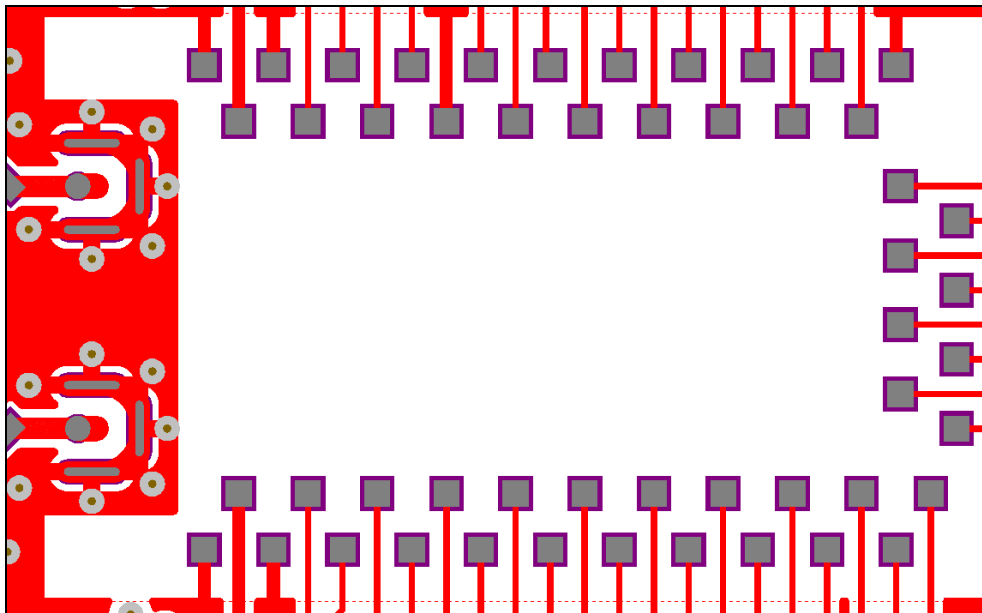

Figure 36: Exemplary base board footprint for 22M12 / 23M12 (top view)
**Figure 36** shows an exemplary base board footprint for deRFmega128-22M12 and deRFmega256-23M12. Only the top layer (red) is visible. The mid and bottom layers are hidden. The pad copper area (red, not visible) and the paste dimension (grey) have the same size of 0.6 x 0.6 mm. The solder stop clearance (purple) has a value of 0.1 mm.
The RF ground pads are connected to each other and to the board ground to ensure a proper ground area. For the most applications it is not necessary to separate the RF ground from system ground. The RF ground area in **Figure 36** has a vertical dimension of 9.4 mm. The ground vias are not plugged. In this area are no other radio module signals. An unintentional short-circuit is therefore accepted. Do not place copper on any other area among the entire module. Solder stop could be used everywhere.